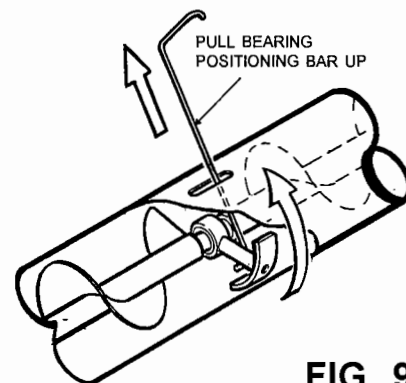

FIG. 9
- B. Remove the positioning bar and insert the single bent end into slot. Hook the bearing hanger stem and, by pulling upward, rotate it completely upright. See Fig. 9.